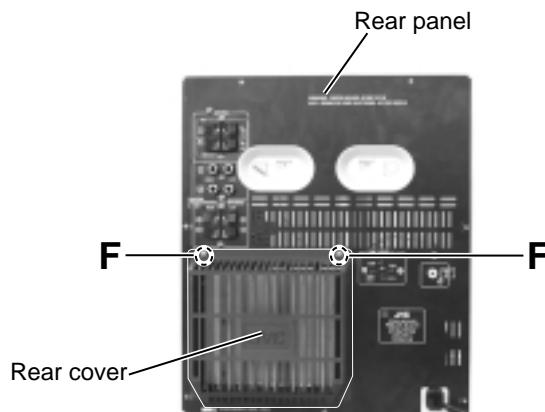

Fig.12
**■ Removing the rear cover, the rear panel, the voltage selector and the video board (See Fig.12 to 15)**